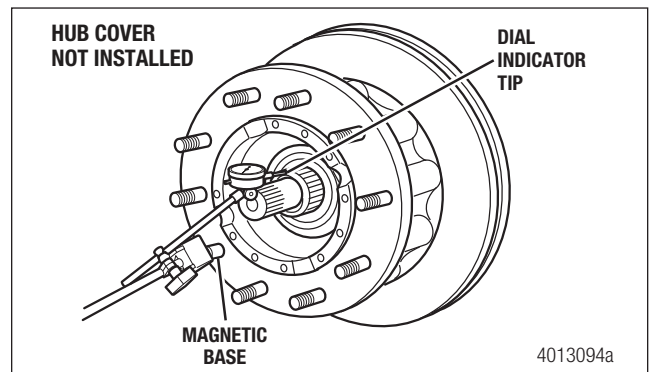
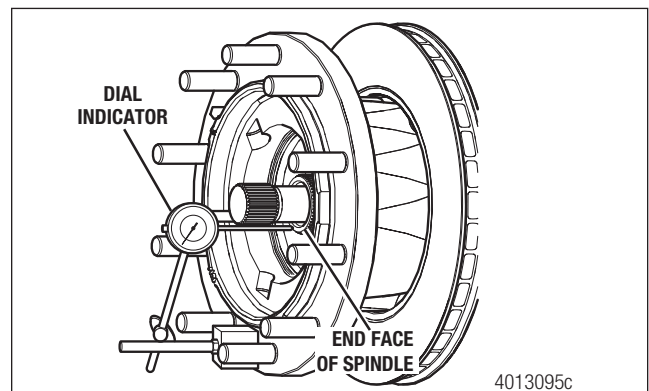

Figure 19.1
Figure 19.2
4. Measure the bearing end play with a dial indicator either off of the rear back edge of the rotor to the knuckle or on the front side edge of the rotor to the spindle. The end play must be 0.001-0.005" (0.025-0.127 mm). Figure 19.1 and Figure 19.2.